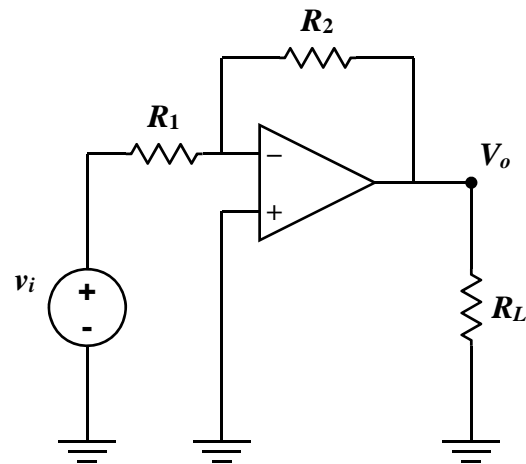

Figure 5.3b
9. Connect a load resistance $R_L = 470\ \Omega$ from V_o to ground (*Figure 5.3b*).
3. *Circle one.* In **Steps 7-12 (Figure 5.3b)** which way does current flow in resistor R_L ?
4. For most circuits without an op amp, when a load resistor R_L is connected, the value of the voltage across the load depends on the resistance R_L . Based on the data of **Table 5-5 (Figure 5.3b)** does $V_o = V_L$ for an op-amp circuit depend on the value of R_L ? Explain physically why or why not.